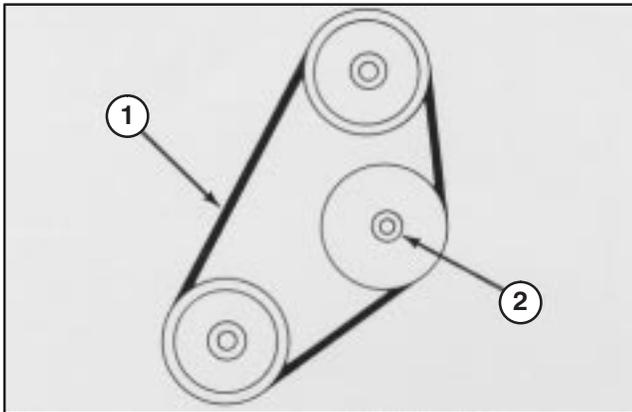

Figure 52
3. Belt should deflect 1/4 in. (6 mm) midway between the pulleys with 5 lb force (22 n) (Fig. 52). If deflection is incorrect, proceed to step 4. If correct, proceed to step 5.
4. Loosen locknut securing idler pulley (Fig. 52). Push idler pulley against belt until proper deflection is achieved and tighten idler pulley locknut (Fig. 52).
2. Loosen locknut securing idler pulley, slide pulley away from belt, and remove belt from top and bottom pulleys (Fig. 52).
3. Install new belt and adjust for proper tension. Push idler pulley against belt until belt deflects 1/4 inch (6 mm) with 5 lb force (22 Nm) midway between top and bottom pulley locknut to secure adjustments (Fig. 52).